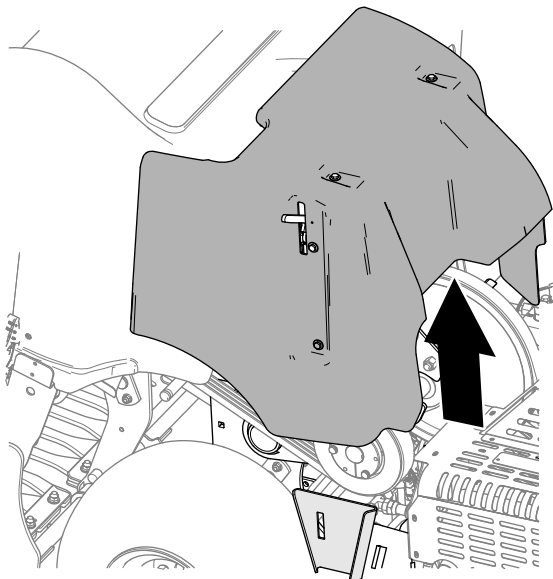

Figure 132
3. Lift the belt cover from the machine (Figure 132).